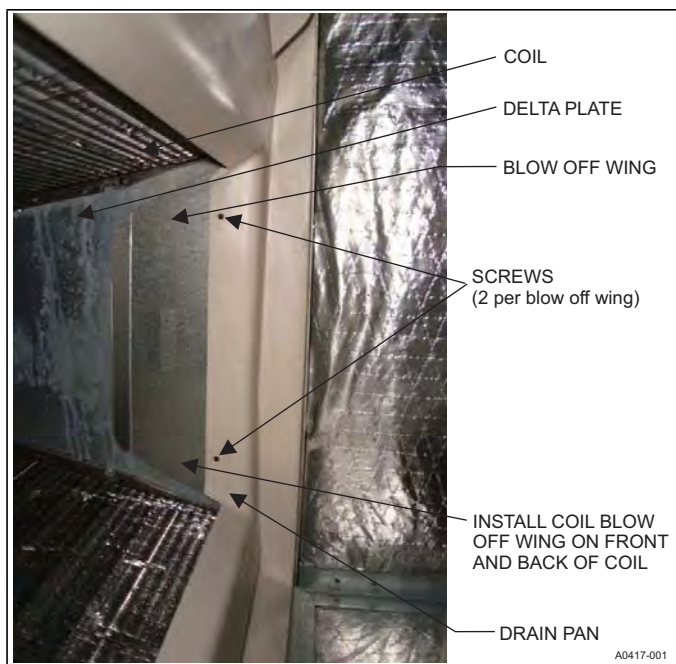

FIGURE 7: Coil Blow Off Wing Installation
- d. Tighten screw to secure coil blow off wings. See Figure 7.